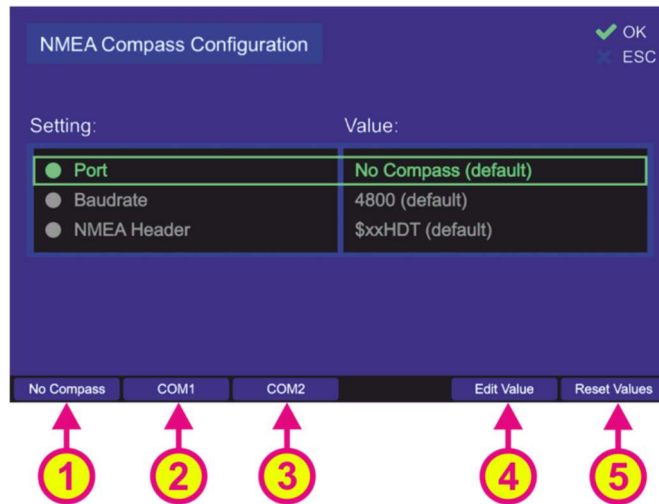

Figure 155. Compass configuration settings
- Press the button “OK” or hotkey “Edit Value”, while the setting “NMEA Compass” is marked. Following sub-menu will appear (s. Figure 155).
Pressing the hotkey “Reset Values” (s. Figure 155, position 5) will set all menu items to default values. To go out of dialog confirming all changes, which have been made within the sub-dialogs for the single settings, press “OK”.
- The communication port can be changed by pressing one of the visible hotkeys, e.g.: “No Compass”, “COM1” or “COM2” (s. Figure 155, positions 1, 2 or 3), or the hotkey “Edit Value” while menu item “Port” is marked (s. Figure 155, position 4).
Using the hotkeys 1, 2 or 3 on the top level dialog “NMEA Compass Configuration” (s. Figure 155), the value of the “Port” setting can be changed without opening the corresponding dialog.
- To change the baud rate, press the hotkey “Edit Value” while the menu item “Baudrate” is marked (s. Figure 155). The corresponding sub-dialog will be opened (s. Figure 157).
- In order to change the NMEA header setting, press the hotkey “Edit Value” while the menu item “NMEA Header” is marked (s. Figure 155). The corresponding sub-dialog will be opened (s. Figure 158).